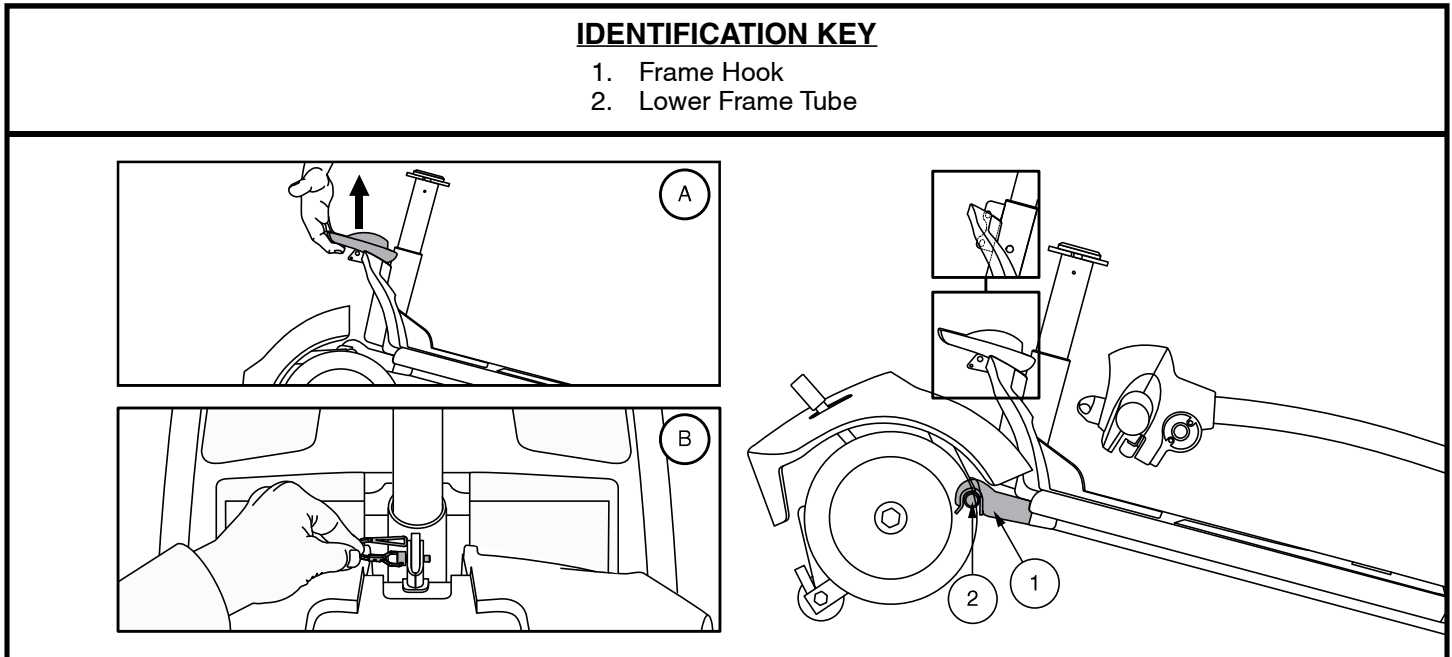

Figure 33. Frame Release Lever (Style A) and Frame Release Lock-up Pin (Style B)
4. Slowly separate the two sections of the Travel Scooter. See figure 33.
NOTE: Before attempting assembly, tilt the rear half of the Travel Scooter slightly back on the anti-tip wheels as shown in figure 33.
1. Use the frame release lever (or the seat post for models 29, 36, 336, 83, and 84 only) to lift the front section as you align the frame hooks of the front section with the lower frame tube of the rear section. See figure 33.
2. Once the frame hooks are over the lower frame tube, lower the front section and pivot the rear section simultaneously. This will engage the frame lock-up automatically for models AAP4, 39, 40, 44, 40LX, 40X, 44X, 40E, 44E, 44LX, 49, 50LX, 50LXLIT, 53, 53HD, 54, 54LX, 54LXLIT, 54HD, 66, 67, 73, 74, and Jazzy ZTS. For models 29, 36, 336, 83, and 84, you will also need to reinstall the frame lockup pin to complete the body assembly. See figure 33.